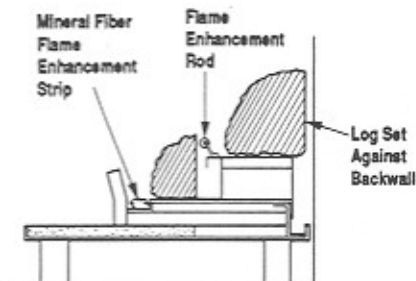

Figure 33
Step 3. Place the smaller logs across the two lower logs onto the grooves provided (Figures 33 and 34).